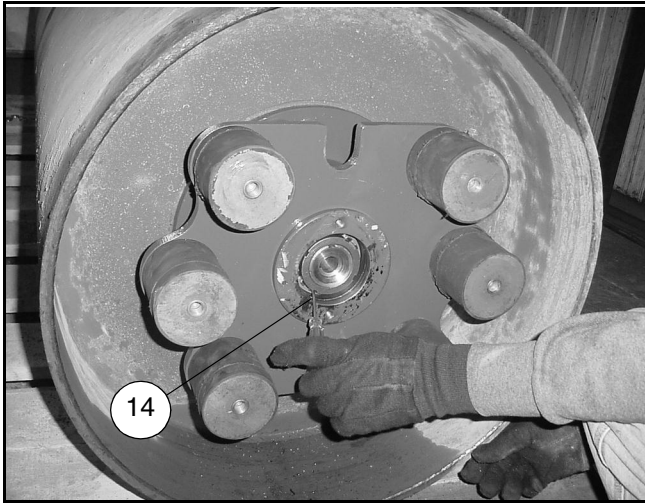

Figure 2
3. Bend back the engaged tab on the shaft lock washer (14), Figure 2.